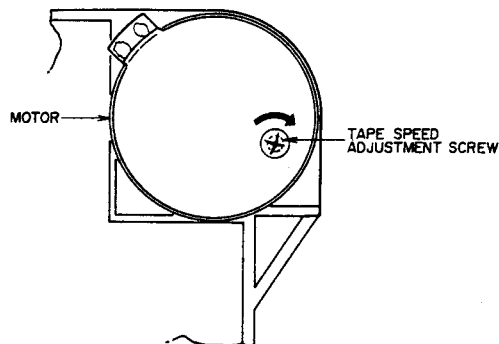

Fig. 12
5. TAPE SPEED ADJUSTMENT (Refer to Fig. 12)